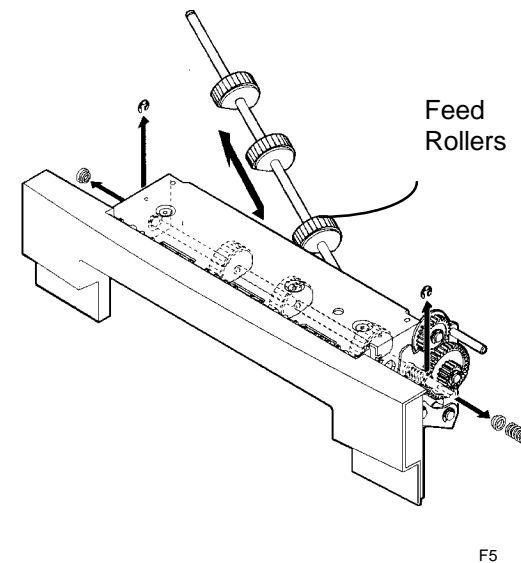

Figure 1. Removing the Tray 2 Feed Rollers
3. (Figure 1): Remove the Tray 2 Feed Rollers.